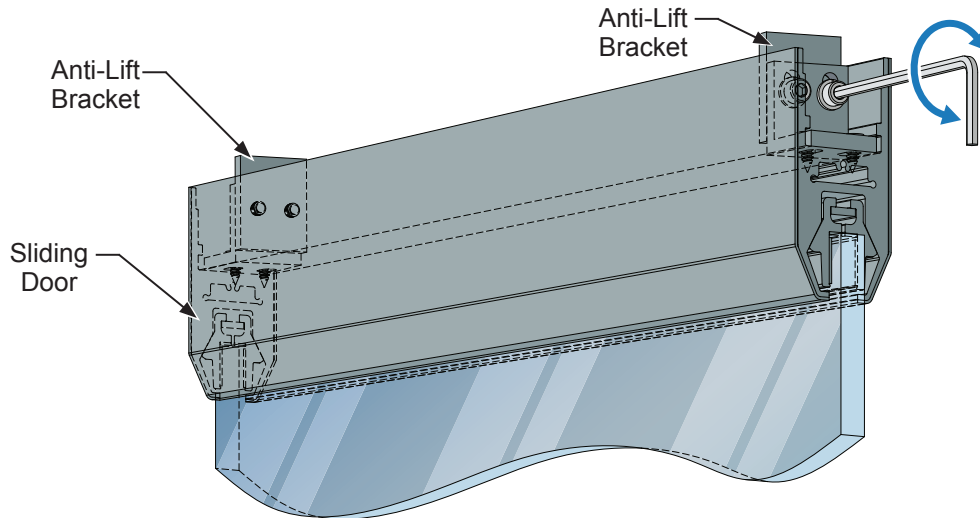

FIG. 13
9. Adjust the Door Stop/Anti-lift Bracket at each end of the Top Rail to be within 1/16" - 1/8" from the inside of the Top/Head Track. (FIG. 13)